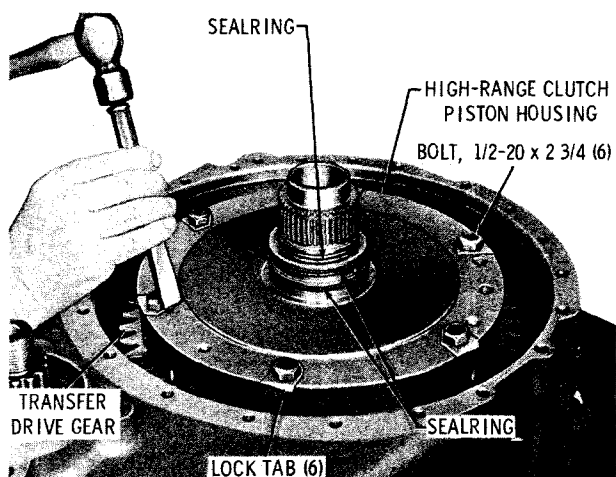

Fig. 5-23. Flattening piston housing bolt locktabs
(1) Straighten the six locktabs and remove the six bolts and locktabs that attach the high-range clutch piston housing to the transfer drive gear (fig. 5-23). Remove the two step-joint sealrings and the other sealring from the hub of the high-range clutch piston housing.